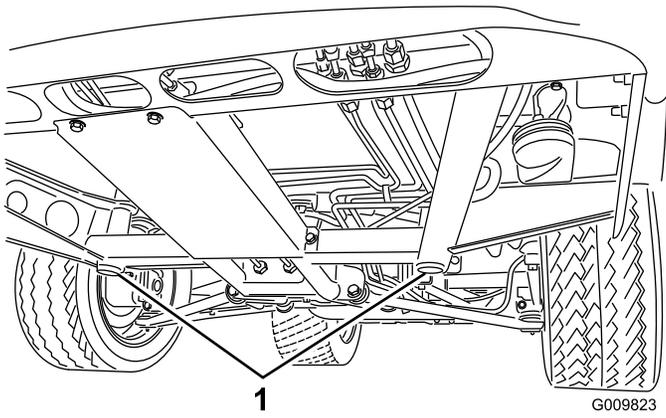
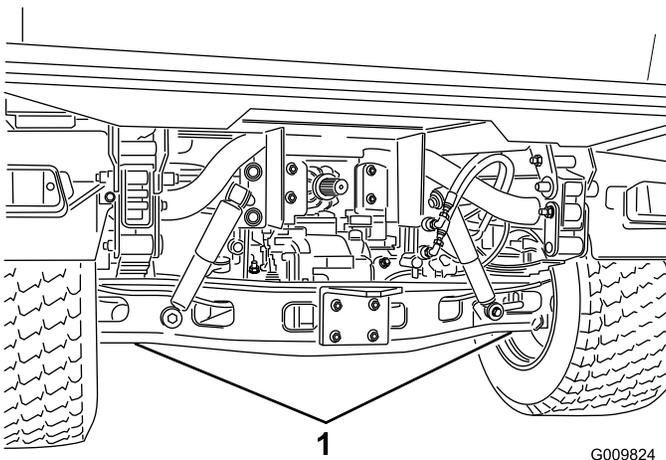

Figure 37
Figure 38
- The jacking point at the front of the vehicle is under the front center frame support (Figure 37) and at the rear it is under the axle (Figure 38).